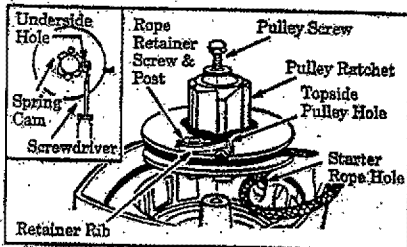

Figure 41
7. Remove the pulley screw in the center of the pulley, Figure 41.
9. Remove the rope retainer screw and remove any remaining rope, Figure 41.
12. Feed the rope through the round starter rope hole in the fan housing, Figure 41.
13. Guide the rope inside the pulley, then up through the pulley ratchet side of the pulley hole to the outside by pushing the rope through the hole on the spring cam side with a small Phillips screwdriver, Figure 41 (inset).
14. Wrap rope counterclockwise around the pulley ratchet and tuck loop end back under rope leaving a 1 inch tail between the retainer rib and screw post, Figure 41. Pull rope tightly.